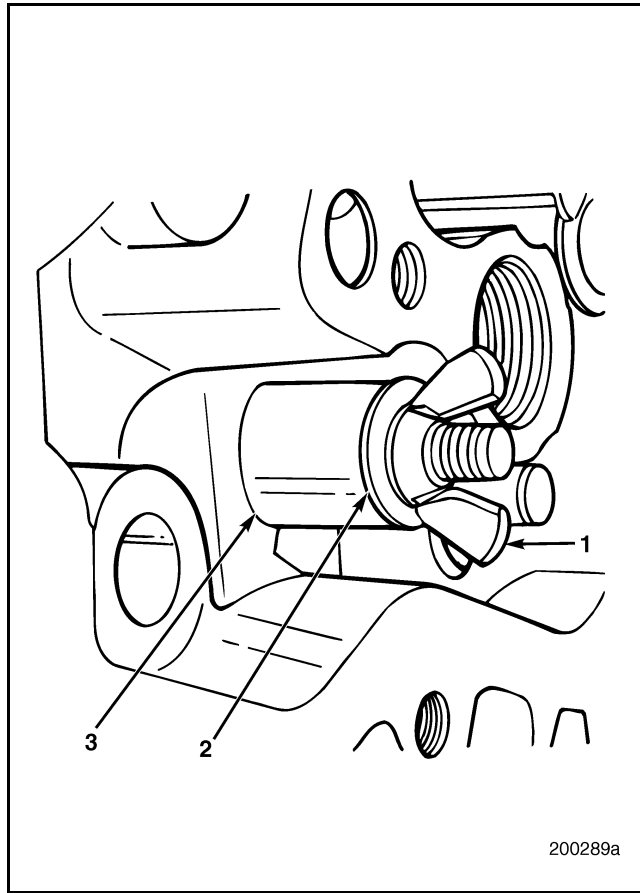

Figure 251 — Cutter Base Attachment
2. Position the cylinder head so the threaded section of the hold-down capscrews can be reached as shown in Figure 251. Install the spacer, washer and wing nut. Lightly tighten the wing nut.